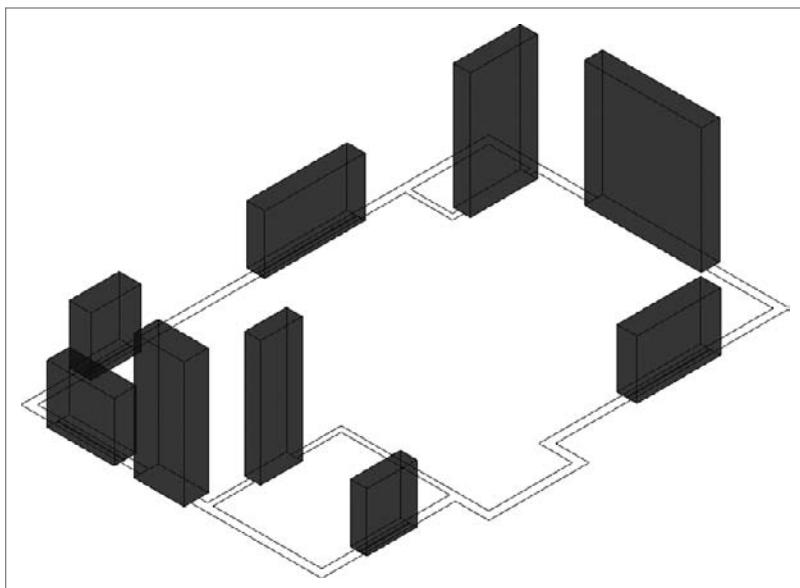

FIGURE 16.19 The drawing with all the block-outs in place
2. Change the thicknesses of the boxes so they overlap the thickness of the outside walls. Your drawing should look like Figure 16.19.